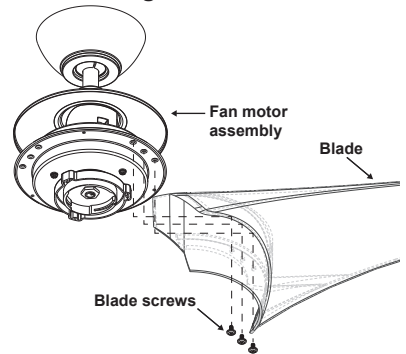

Figure 14
Step 2. Attach the blade to the fan motor assembly using three blade screws. Attach the other blades to the fan motor assembly. (Fig. 14)